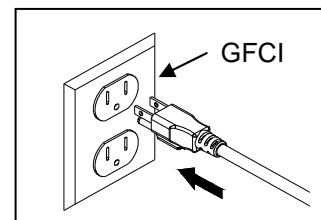

Fig. 4
- Place the unit into the water and connect to a proper power source. Fig. 4